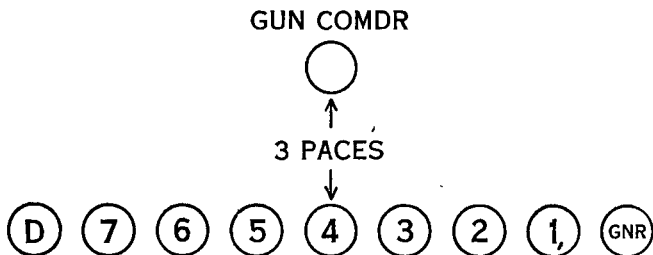

FIGURE 31.—Formation of gun crew.
■ 68. FORMATION OF GUN CREW.—*a. Order of formation.*—A gun crew is formed as shown in figure 31. Basics, if present, form in order on the left of No. 7. Driver is the left flank man.
b. To form.—(1) The place of formation is indicated and the command given thus, for example; 1. IN FRONT (REAR) OF YOUR PIECES (OR ON THE ROAD FACING THE PARK), (2) FALL IN. *Each gunner repeats the command FALL IN* and hastens to place himself faced in the proper direction, at the point where the right of his squad is to rest. The cannoneers move at double time and assemble at attention in their proper places. For the first formation of the gun crews for any drill or exercise, the caution, "As gun crews," precedes the command. The gun commander, if present, supervises the formation.